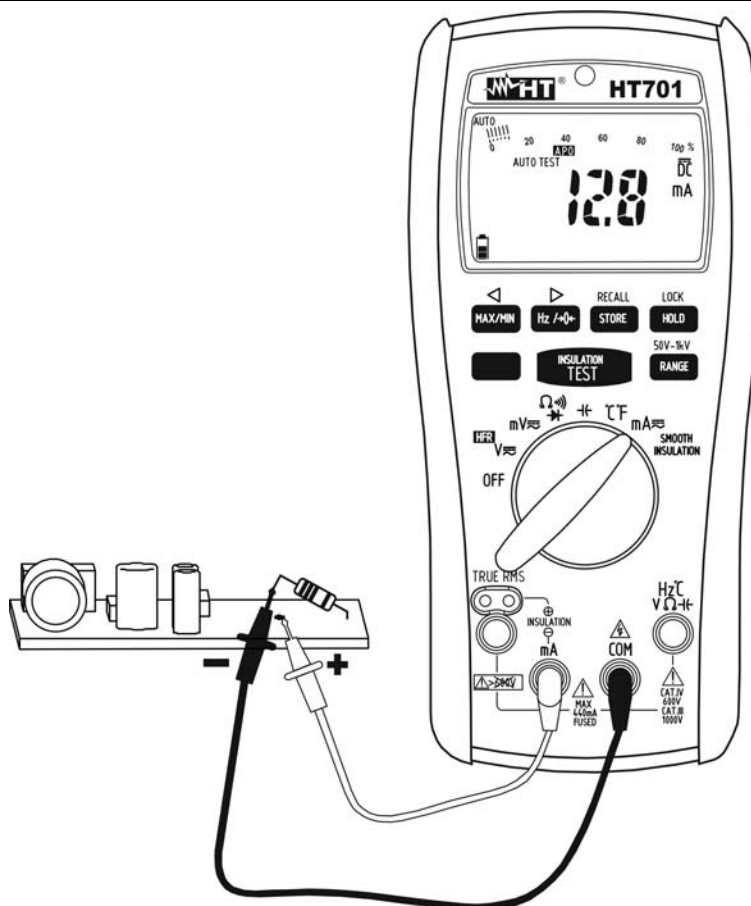

Fig. 4: Use of the instrument for DC current measurement
6. Connect the red lead and the black lead in series to the circuit whose current you want to measure, respecting polarity and current direction (see Fig. 4)
9. When symbol "-" appears on the instrument's display, it means that current has the opposite direction with respect to the connection of Fig. 4